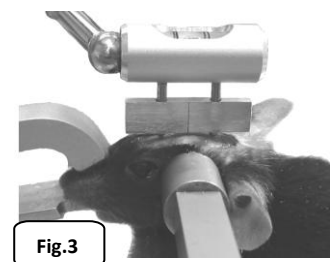

Fig.3
4. Place the probe along the sagittal suture so that the pins are at an equal distance from bregma and lambda and are located on the middle line (Fig. 3).